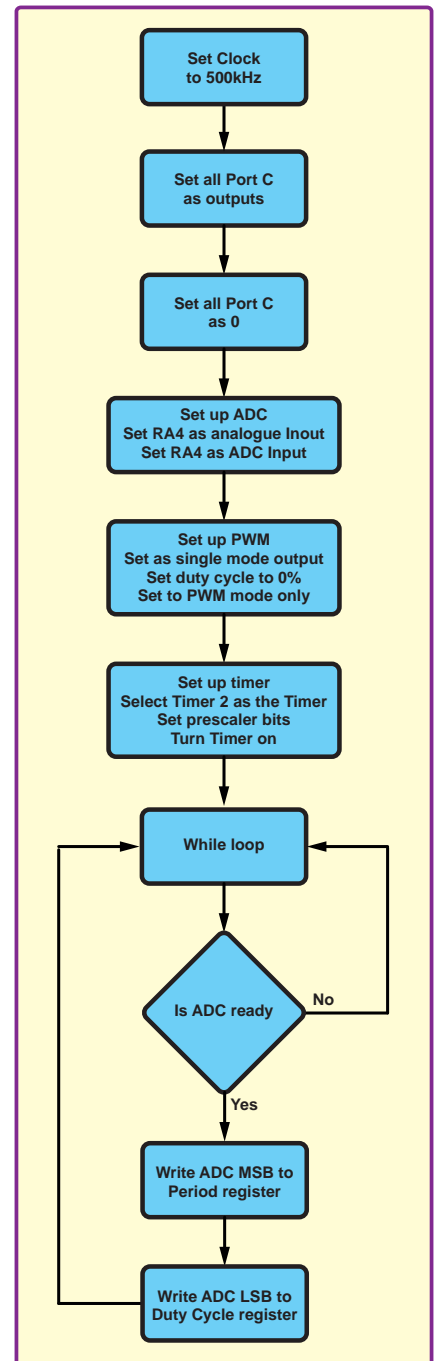

Fig.3. Flow Chart for PIC PWM Code
Lesson 8 in the *PICKit 3 Starter Kit User's Guide* works through an example of taking an ADC value from the rotating potentiometer to adjust the brightness of an LED. The example is straightforward enough and accurately demonstrates how PWM can be used to dim the brightness of a LED. No components need to be added to the demo board to get this to work, but we do need to examine the software that does this. Let's take a look at the code for this lesson. Fig.3 shows a flowchart of the code. Each block breaks down the code into bite-size pieces. The PICKit 3 starter kit code can be downloaded from the link for item 7 in the list at the beginning of this article.